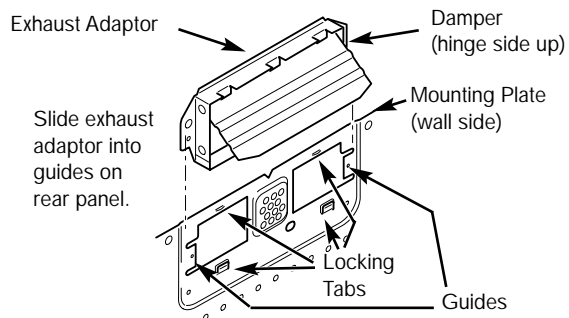

Figure 29
- Carefully guide the exhaust adaptor (now attached to the mounting plate) into the house duct, before using the screws to attach the plate to the wall. This will assure proper alignment for installation. See Figure 29.
- Return to step 5, item 3 (page 15) to continue. After completing the installation of the mounting plate, again check the rear damper for free movement to assure it will operate properly.